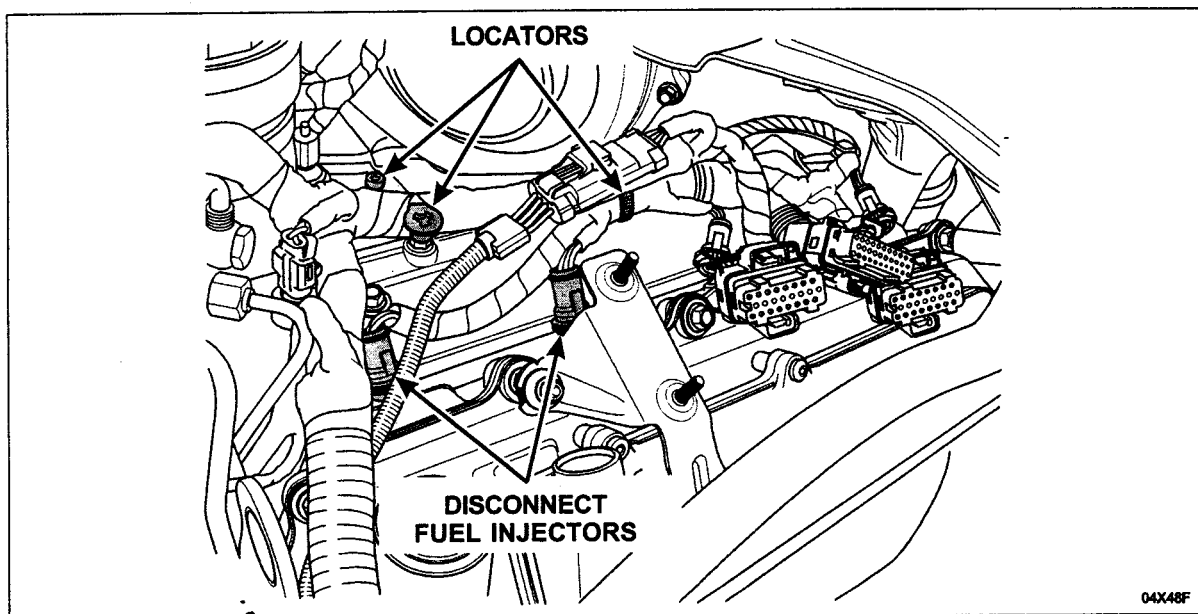

FIGURE 7
2. Disconnect the remaining two (2) fuel injectors on the driver side along with three (3) wire harness locators (two [2] located along the fuel injector manifold assembly and one located under the turbocharger). See Figure 7.